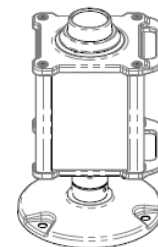

Figure 4-4
4. Connect the connecting cable and circuit board according to the previous wiring method, cover the upper cover of the shell and tighten the screws (Figure 4-4).